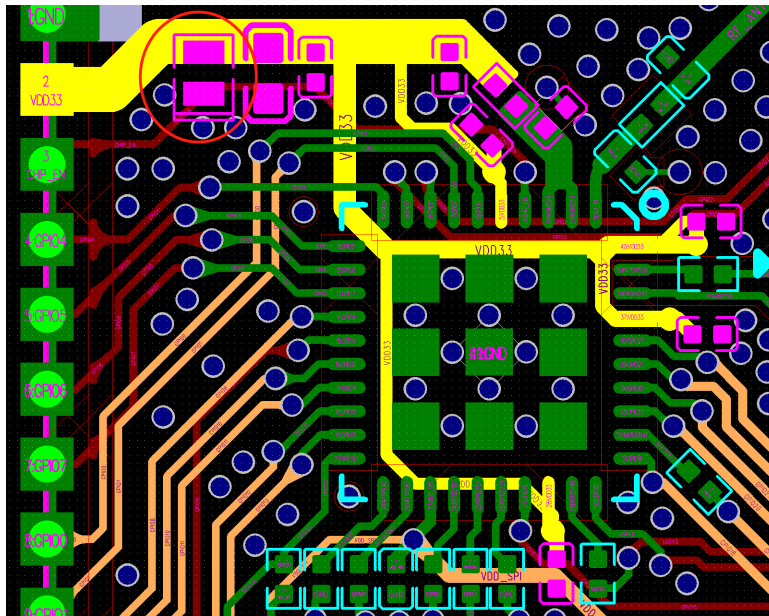

Figure 17: ESP32-C6 Power Traces in a Four-layer PCB Design
- The 3.3 V power traces, highlighted in yellow, are routed as shown in Figure 17. The width of the main power traces should be no less than 25 mil. The width of the power traces for VDDA3P3 pins should be no less than 20 mil. Recommended width of other power traces is 10 mil.
- The ESD protection diode is placed next to the power port (circled in red in the top left quarter of Figure 17). The power trace should have a 10 μF capacitor on its way before entering into the chip, and a 0.1 or 1 μF capacitor could also be used in conjunction with this 10 μF capacitor. After them, the power traces are divided into several branches using a star-shape topology, which reduces the coupling between different power pins. Note that all decoupling capacitors should be placed close to the corresponding power pin, and ground vias should be added close to the capacitor's ground pad to ensure a short return path.
The analog power pin VDDA3P3 are close to the chip's power entrance as shown in Figure 17 (in Figure 17 the power entrance is the starting point of VDD33 highlighted in yellow), so we only use one 10 μF capacitor at VDDA3P3 and the power entrance. If they are not close to each other, please add one 10 μF capacitor at VDDA3P3, and another 10 μF capacitor at the power entrance. If space allows, please also reserve two 1 μF capacitors.
- If you need to add a thermal pad EPAD under the chip on the bottom of the module, it is recommended to employ a square grid on the EPAD, cover the gaps with ink, and place ground vias in the gaps, as shown in Figure 17. This can avoid tin leakage when soldering the module EPAD to the substrate.